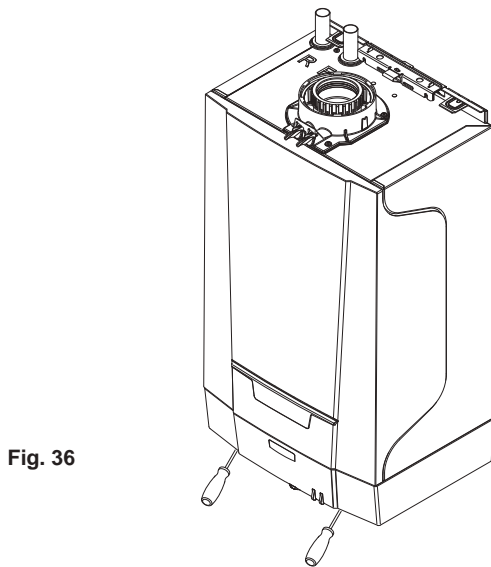

Fig. 36
1. Unscrew the two screws located on the lower front panel (Fig. 36).